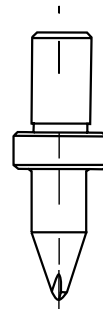

fig. 7e
6.4.2 Fluted point "Rem Flowdrill" (fig.7e)